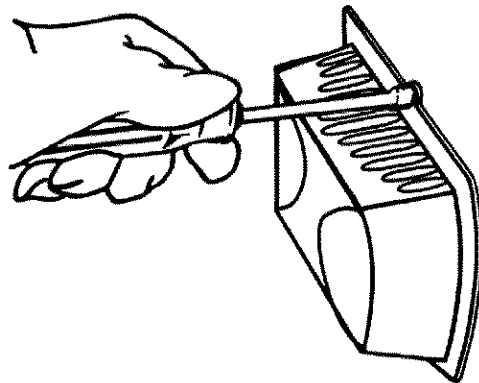

Figure 41
- Remove protective bulb shield by using a 1/4" drive or socket wrench. See Figure 41.